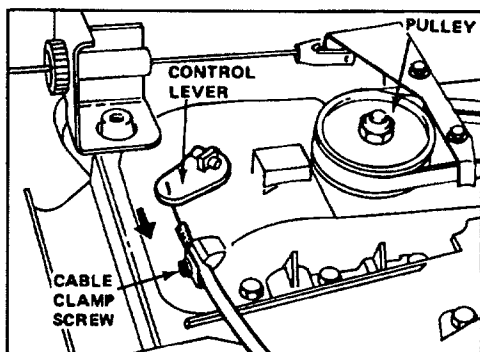

Figure 26
3. **ADJUSTMENT** (Fig. 26) — Loosen cable clamp screw until cable conduit slides. Push transmission control lever toward cable clamp screw and hold lever in place. Pull cable to remove slack and tighten clamp screw.
4. **CHECK ADJUSTMENT** — Assure ground speed control is in "N" and pull mower backward. Pulley (Fig. 26) should not rotate. If pulley does rotate, readjust for neutral: refer to step 3.
1. Stop engine and disconnect wire harness from battery terminal (Fig. 26).